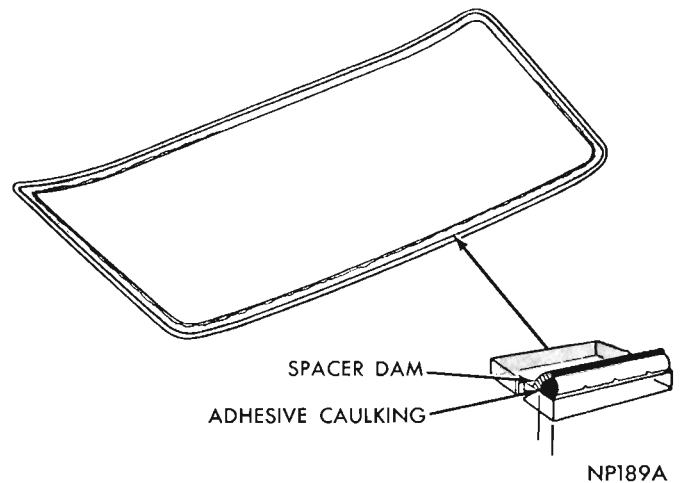

Fig. 3 Adhesive Application To Glass
(6) Apply a piece of masking tape over each side of glass and roof extensions. Slit tape vertically at edge of glass so when glass is installed, tape on glass can be aligned with tape on body.
(7) Remove glass from opening and place on a protected surface, with inside surface up.
(10) Insert adhesive tube into a standard household caulking gun, install nozzle on end of tube, and puncture adhesive seal at nozzle.
(11) Apply a smooth continuous 3/8 inch bead of adhesive on glass between glass edge and spacer dam (Fig. 3).
(12) When positioning glass in opening, alignment must be exact to prevent necessity of moving glass after adhesive contacts fence.